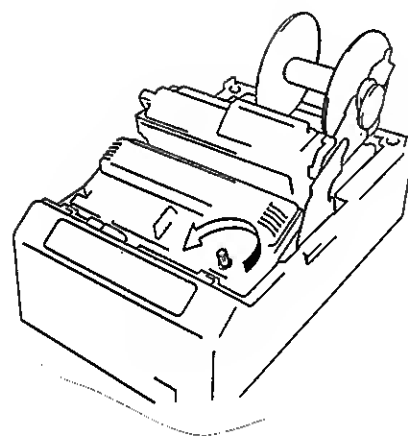

Fig. 2
- 3) Turn the knob of the ribbon cassette in the arrow direction several times to remove the slack on the ribbon. (Fig. 2)